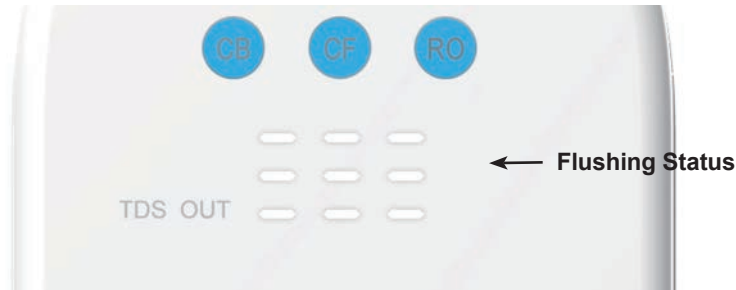

Figure 30
**NOTE:** The display screen will show the flushing status (Figure 30) during the process.
To maintain and extend the life expectancy of the filters, the system will be automatically flushed for 20 seconds when it accumulatively works up to 2 hours, where the front panel screen will show a display as in Figure 30. If the user takes water during the flushing, the system will quit flushing and switch to dispensing.
To ensure fresh and healthy drinking water, the system will be automatically flushed for 1 minute when there is no water dispensing for 24 hours. The front panel screen will display as seen in Figure 30. If the user takes water during flushing, the system will quit flushing and switch to dispensing.
When power is restored from a blackout, the system will be forced to flush automatically for 20 seconds, and the front panel screen will display as seen in Figure 30. The blue, yellow and red lights will flash in turn for one second, and then the blue light will be on for 20 seconds. The indicators will be off when the flushing is complete.